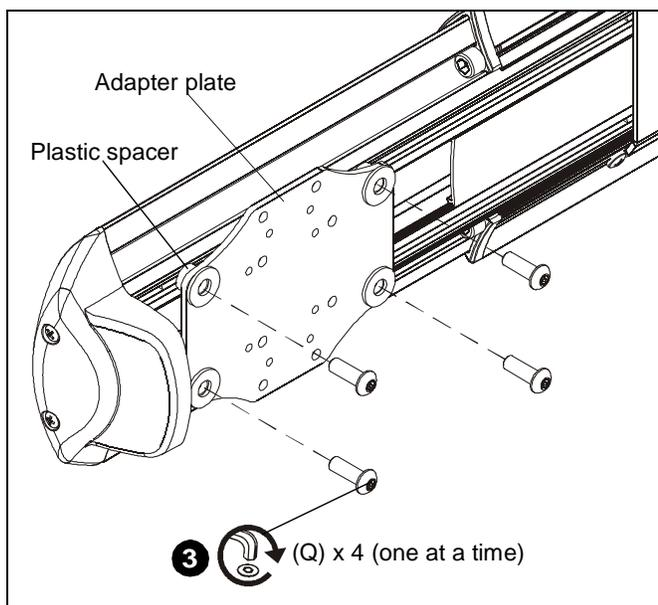

Figure 45
- Install one 1/4-20 x 3/4" button head security screw (Q) into hole vacated by removing bolt in Step 2 and into plastic spacer. (See Figure 45)